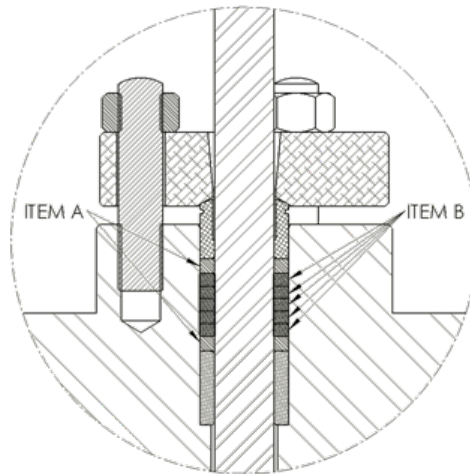

Figure 12 - Packing box cross section
4. Install the guide bushing inside the packing box followed by all other packing elements as indicated in Figure 12. A total of seven rings make up the packing, "Item A" represents the two anti-extrusion (split packing) rings that sandwich the five "Item B," graphite rings.